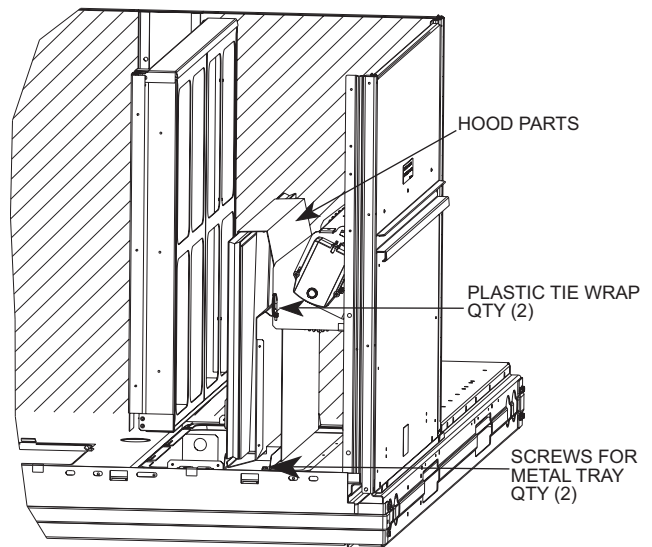

Fig. 14 — Economizer and Two-Position Damper Hood Parts Location
2. Locate the (2) screws holding the metal tray to the basepan and remove. Locate and cut the (2) plastic tie-wraps securing the assembly to the damper. See Fig. 14. Be careful to not damage any wiring or cut tie-wraps securing any wiring.